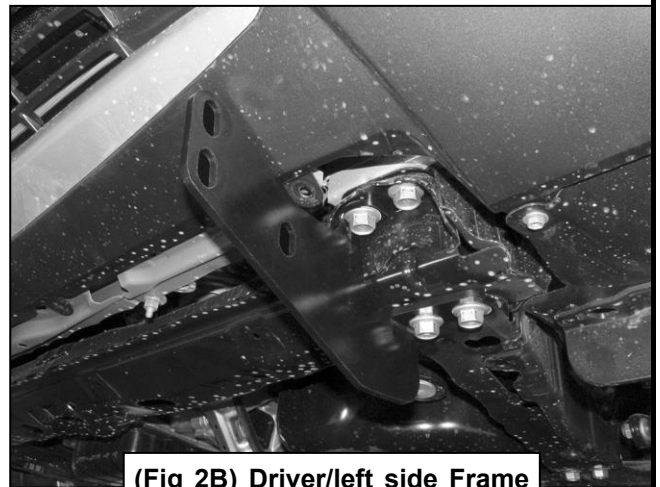

Fig 2A
3. Locate the (4) factory hex bolts securing each end of the crossmember to the frame, (**Figure 1**). **NOTE:** Only install one Mounting Bracket at a time and only remove the (3) factory hex bolts required for Bracket installation, (**Figure 1**). Select the driver side Frame Mounting Bracket, (**Figure 2A**). Bolt the Bracket in position using the factory hex bolts, (**Figure 2B**). Snug the hardware but do not tighten at this time. Repeat this **Step** for the passenger side Mounting Bracket installation.